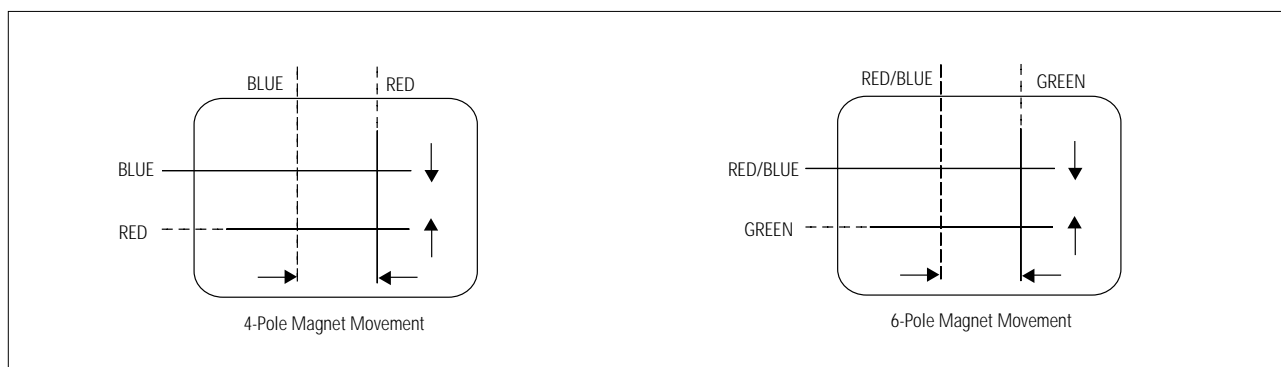

Fig. 4-3 Center Convergence Adjustment
8. Since the 4-pole magnets and 6-pole magnets interact, the dot movement is complex (Fig. 4-3).